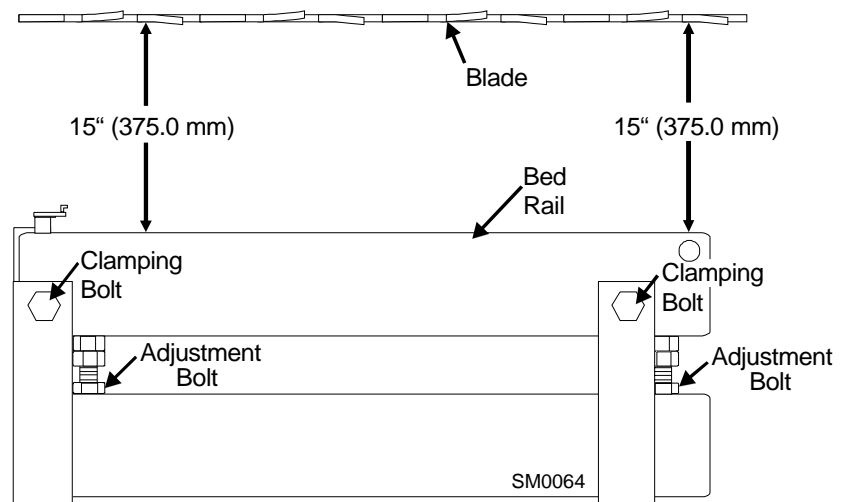

FIG. 5-7
4. Move the saw head to center the blade over the rear-most bed rail. See Figure 5-7.